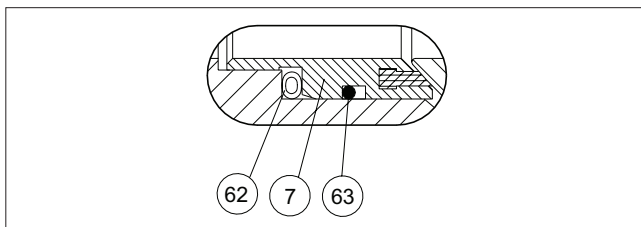

Fig. 11 T seat
- Insert shaft subassembly through the shaft bore of the body (1). Note the correct shaft position!
- Install the bonnet gasket (66) and then bonnet (8) and over the shaft and the bonnet studs (13). Lubricate the threads of studs (13) and tighten the nuts (17) according to values in Table 4.
- Install the packing (69). Refer to Fig. 11 for proper orientation of packing.
- Install the gland (9) over shaft (5) and gland studs. Install the disc springs sets (150) and the gland stud nuts (18) on studs and tighten "finger tight."